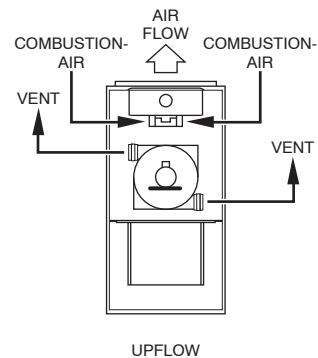

Fig. 25 - Combustion Air and Vent Pipe Connections
Furnace combustion-air connection must be attached as shown in Fig. 25. Combustion-air intake housing plug may need to be relocated in some applications.
1. Determine location of combustion-air intake pipe connection to combustion-air intake housing as shown in Fig. 25.
- Insert assembled combustion air inlet pipe into intake housing as shown in Fig. 25.
Furnace vent connection must be attached as shown in Fig. 25.
1. Determine location of vent pipe connection to inducer housing as shown in Fig. 25 for application.